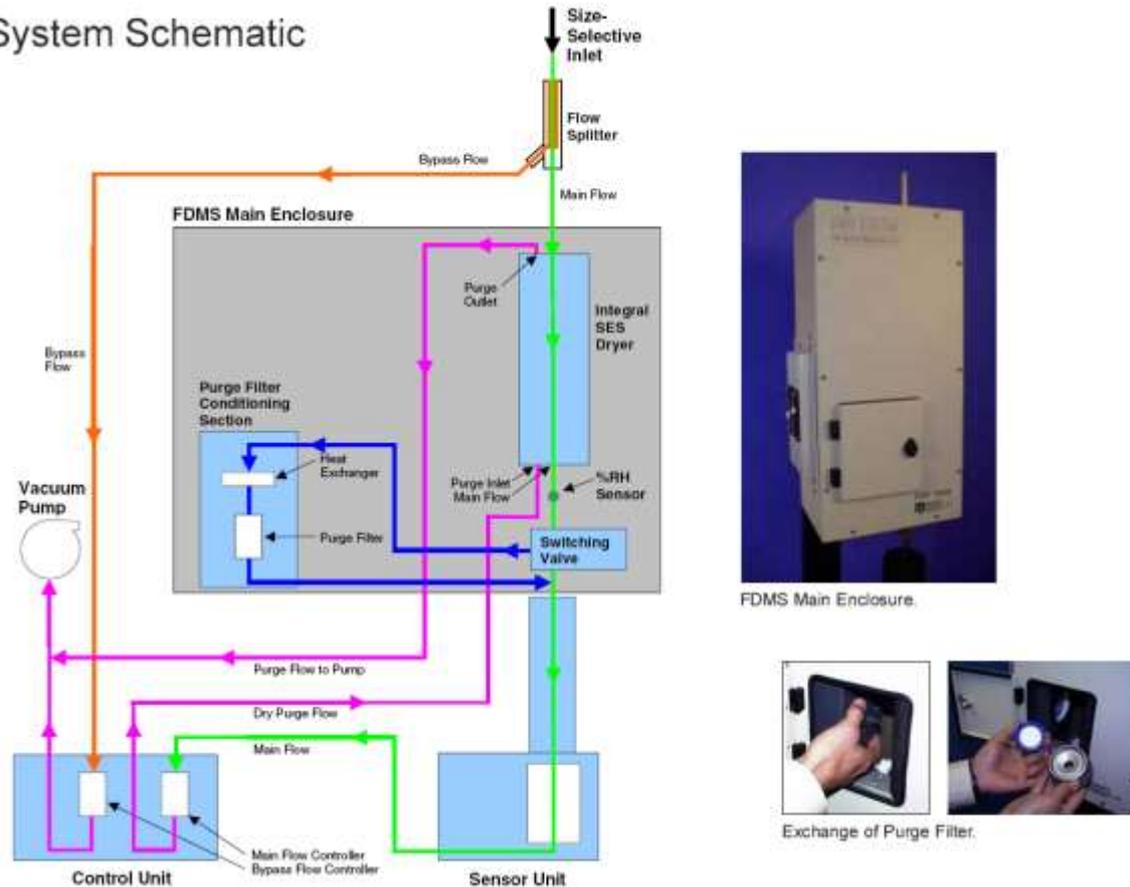

Figure 19-1 Analyser Schematic, showing 1st generation FDMS unit (B type drier)
Figure 19-1 gives a schematic of the process, which is described below.
3. For six minutes, the air passes directly into the sensor unit, where PM is collected on the filter and weighed. This is identical to the method used in the TEOM 1400AB, except that the air is dried and the FDMS operates at 30°C, rather than 50°C. The flow of air for this part of the cycle is marked in green in Figure 19-1. The average concentration over this 6 minutes, is the “base” measurement of the 12-minute cycle.
4. The switching valve then diverts the air through to a purge filter, marked in blue in Figure 19-1. The main flow air passes through the drier as before, but then passes into a cooled chamber, which is held at 4°C. The air then passes through a filter, which retains all the PM in the airstream, but allows any gases to pass through. This scrubbed, zero air is then returned to the sensor unit, where it is sampled normally, to provide a baseline measurement. The average concentration over this 6 minutes is the “reference” measurement of the 12-minute cycle.
Refer to the information diagrams in the margin and also Figure 19-1, Figure 19-5, Figure 19-6 and Figure 19-7 when following the instructions for changing the purge filter. The 47mm purge filter situated in the 8500 module must be replaced every time a TEOM filter in the sensor unit is changed, to ensure optimal performance of FDMS. The filter is cooled to 4°C. **Only EMFAB / Pallflex TX40 filters are to be used – sample inlet filters from gaseous analysers are not suitable.**